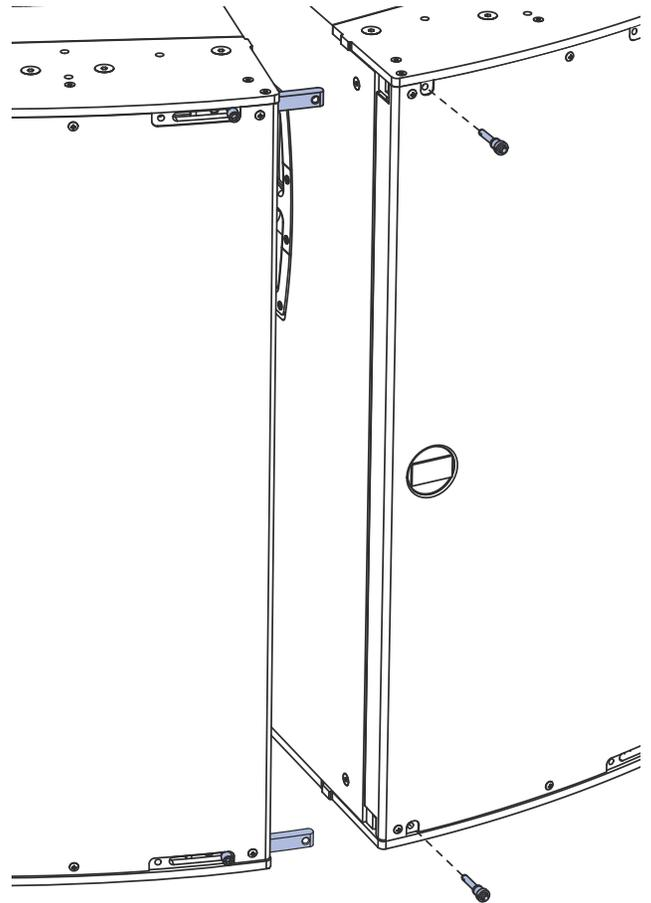

Figure 12: Inserting Front GuideALinks
- Secure the front GuideALinks with the quick-release pins stored at the right top and right bottom of the loudspeaker. The pins are inserted from the front (Figure 12).